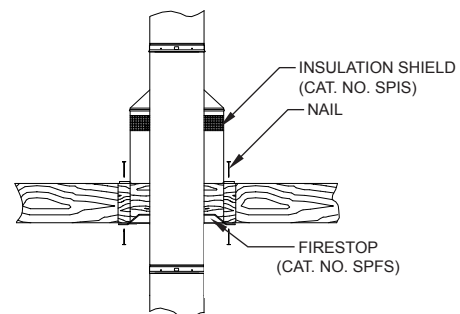

FIG. 4
7. The first chimney section through the joist area into attic is to be approximately two (2) feet. If the pipe sections in the attic are not enclosed, an insulation shield (SPIS) must be installed. Lower insulation shield (SPIS) over SP pipe until the flange is resting on the joist. Secure the SPIS in place by nailing the flange to the joist. See FIG. 4. If the section within the attic area is to be chase enclosed, the SPIS is not required.